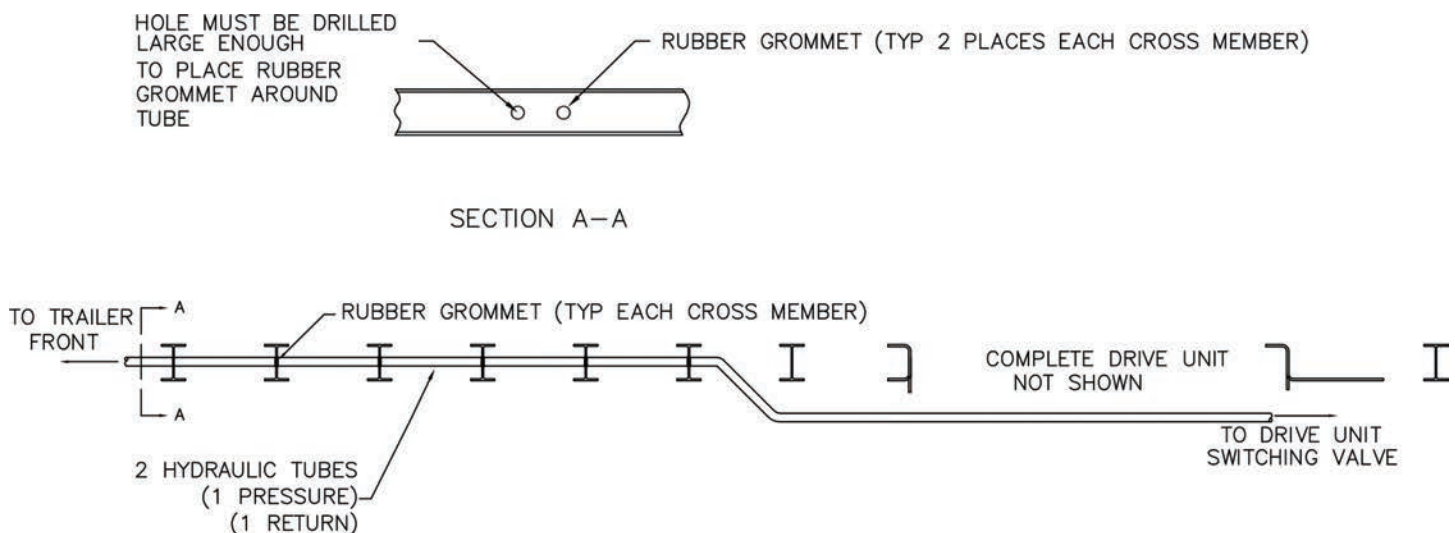

Figure 2
- 1) Routing the hydraulic tubing through the cross-members (Figure 2). Make two holes per cross-member large enough to fit a protective grommet around the tubing size of your choice. The holes should be close to the sides of the trailer to maintain the structural integrity of the cross-members. Access holes must be cut or drilled through the nose of the trailer, in line with where the tubes will pass through cross-members. Seal the holes after the tubing is in place.